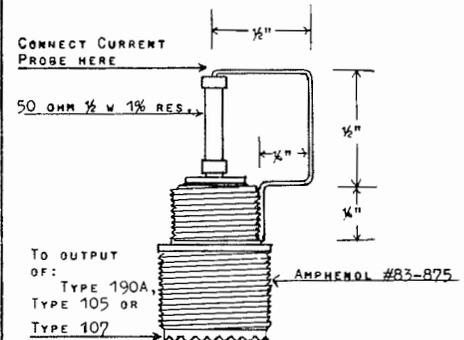

Fig. 2
- A. A 1½" piece of No. 18 solid wire, formed into a question mark, in series with a small 50 Ω—1% resistor and soldered to a female uhf connector will do the trick. (See fig. 2). This test jig has a VSWR